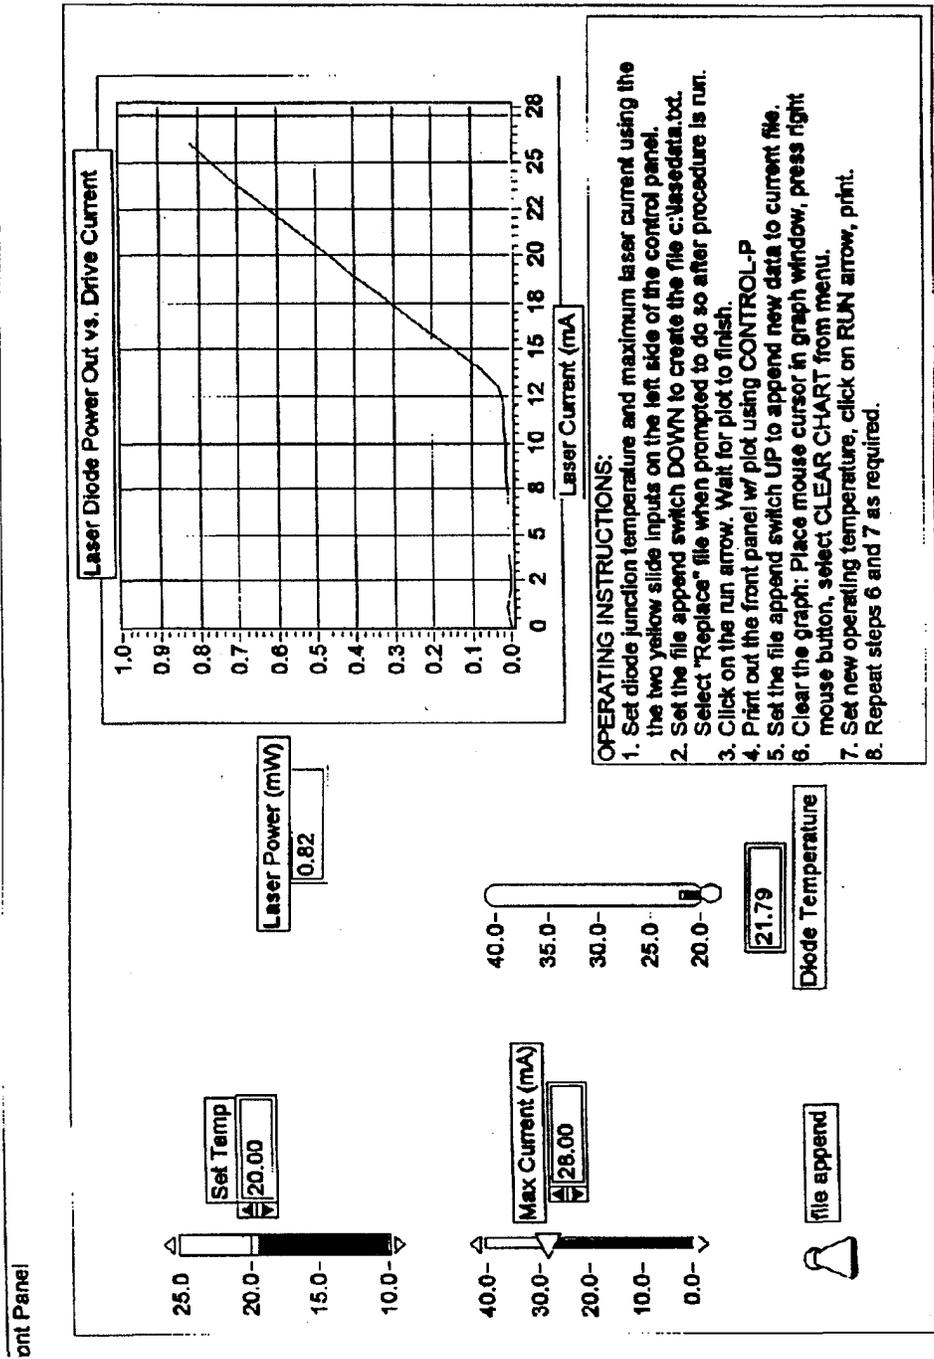

Figure 1: Representative screen printout.
- (f) Print the screen display, by using the “File, Print” menu commands. Your printout should resemble Fig. 1.